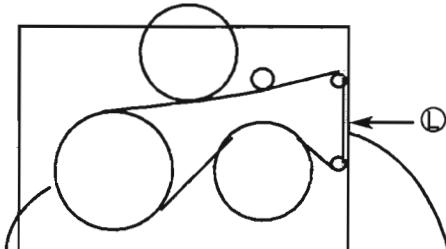

Fig. 14 Mechanism A
1. Install the belt of mechanism A as shown in fig. 14.